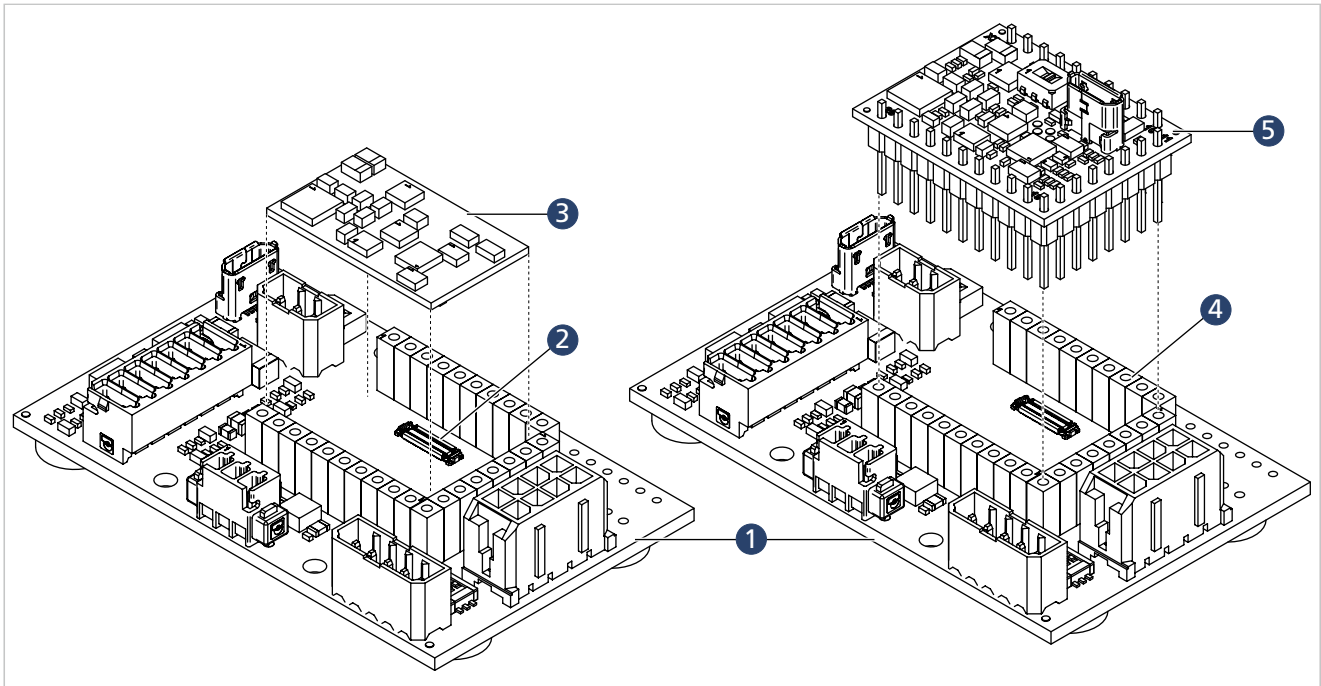

Fig. 13: Installation of a Motion Controller PCB (example: motherboard MB1 MC3001 6500.01802)
- ▶ Note orientation of the Motion Controller PCB acc. to Fig. 13.
- ▶ MC 3001 B: Connect the Motion Controller PCB (3) to the motherboard (1) using the 3 micro board-to-board connectors (2).
- ▶ MC 3001 P: Connect the Motion Controller PCB (5) to the motherboard (1) using the plug connections (4).